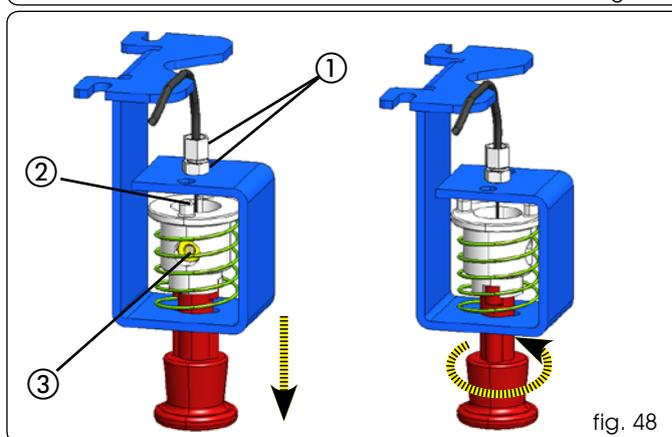

fig. 48
- Screw the adjusting screw with the relevant securing nut as shown in fig.48 ref. ①).
- Insert the steel cable into the adjusting screw; let it route inside the release device (fig. 48 ref. ②).
- Block the steel cable by means of the relevant clamp and tighten the screw (fig. 48 ref. ③).
- Block the knob by pulling it and turning it by 90° and make sure that it does not return to its original position (fig. 48).
- If adjusting operations are necessary, use the knob bracket adjusting screw (fig. 48 ref. ①).